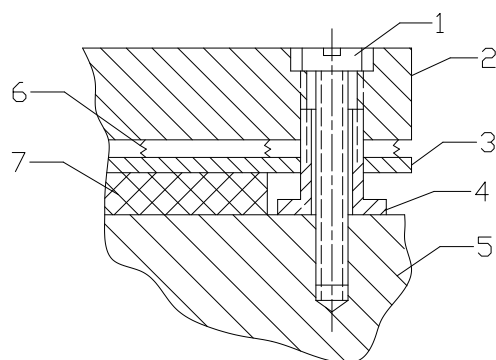

Figure 9: Electromagnetic Brake
a. The spacing between the armatures and the electromagnetic disk should be within 0.8-1.0 mm (see figure 9).